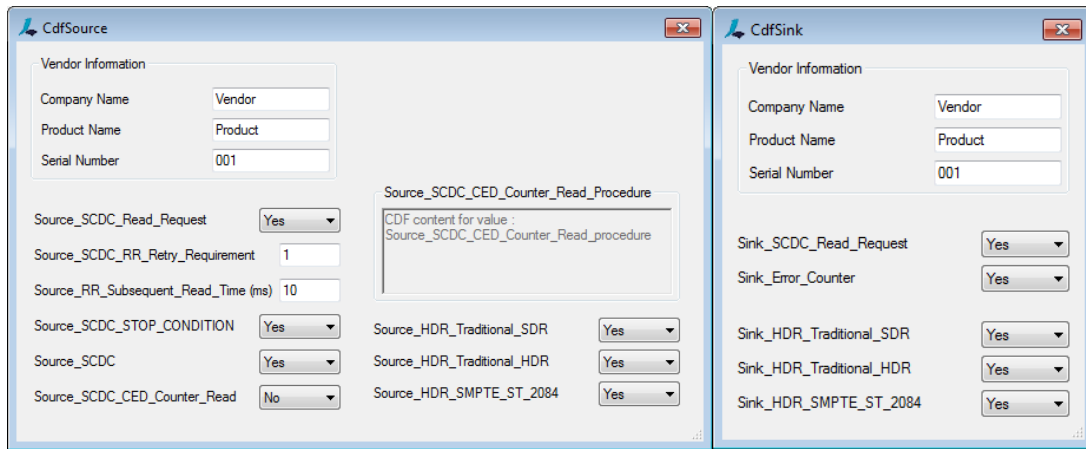

Figure 4.2. CdfSource and CdfSink Dialogs
3. Click the Edit CDF button. CdfSource or CdfSink dialog pops up (Figure 4.2). You can customize the information to your need in the dialog.